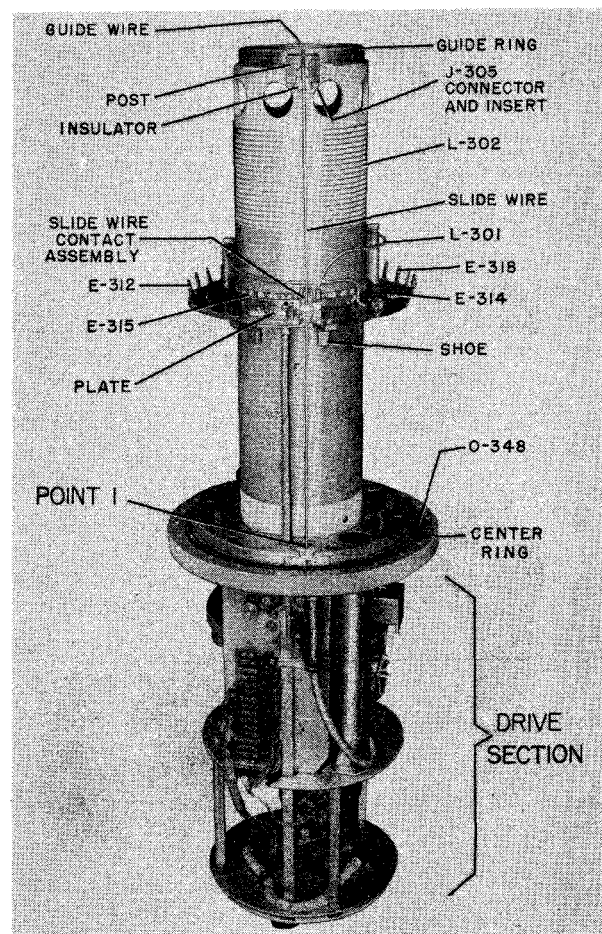

Figure 7-106. R-F Tuner TN-229/SRT, Less Housing
Shock mounts are still mounted to housing, and may be removed at this time, if necessary. Removal of the housing will provide access to all the main coil and sliding short assembly components (figure 7-106).
If trouble location procedures indicate trouble in the impedance transformer switch assembly or the main coil drive mechanism, a step-by-step disassembly procedure must be followed. For component location, refer to figures 7-106, 7-107, and 7-108.
*Step 1.* Unsolder coaxial cable terminated in slide wire insulator, POINT 1 of figure 7-106.